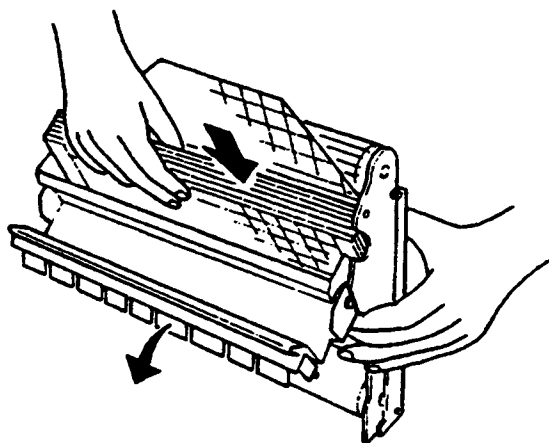

Figure 6.12
- (5) Set the chart so that the round holes in the chart are positioned at the right and the chart end with both edges cut off is positioned in the forward. (Figure. 6.12)